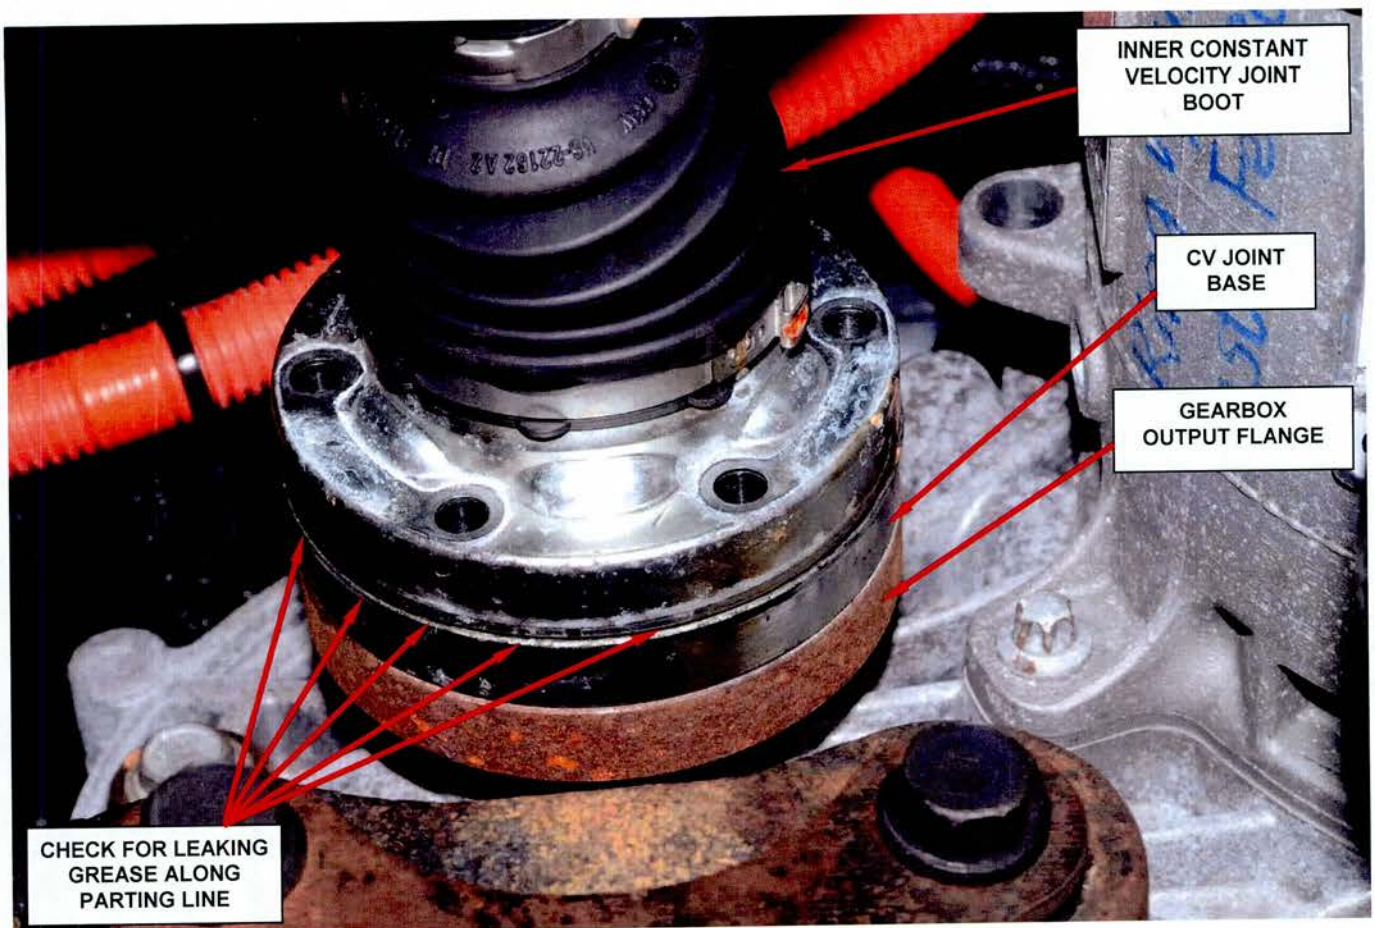

Figure 3 – Inspect for Leaking Grease at Halfshaft Base Seam
6. Inspect the halfshaft for grease leaks at the halfshaft CV joint base (Figure 3):